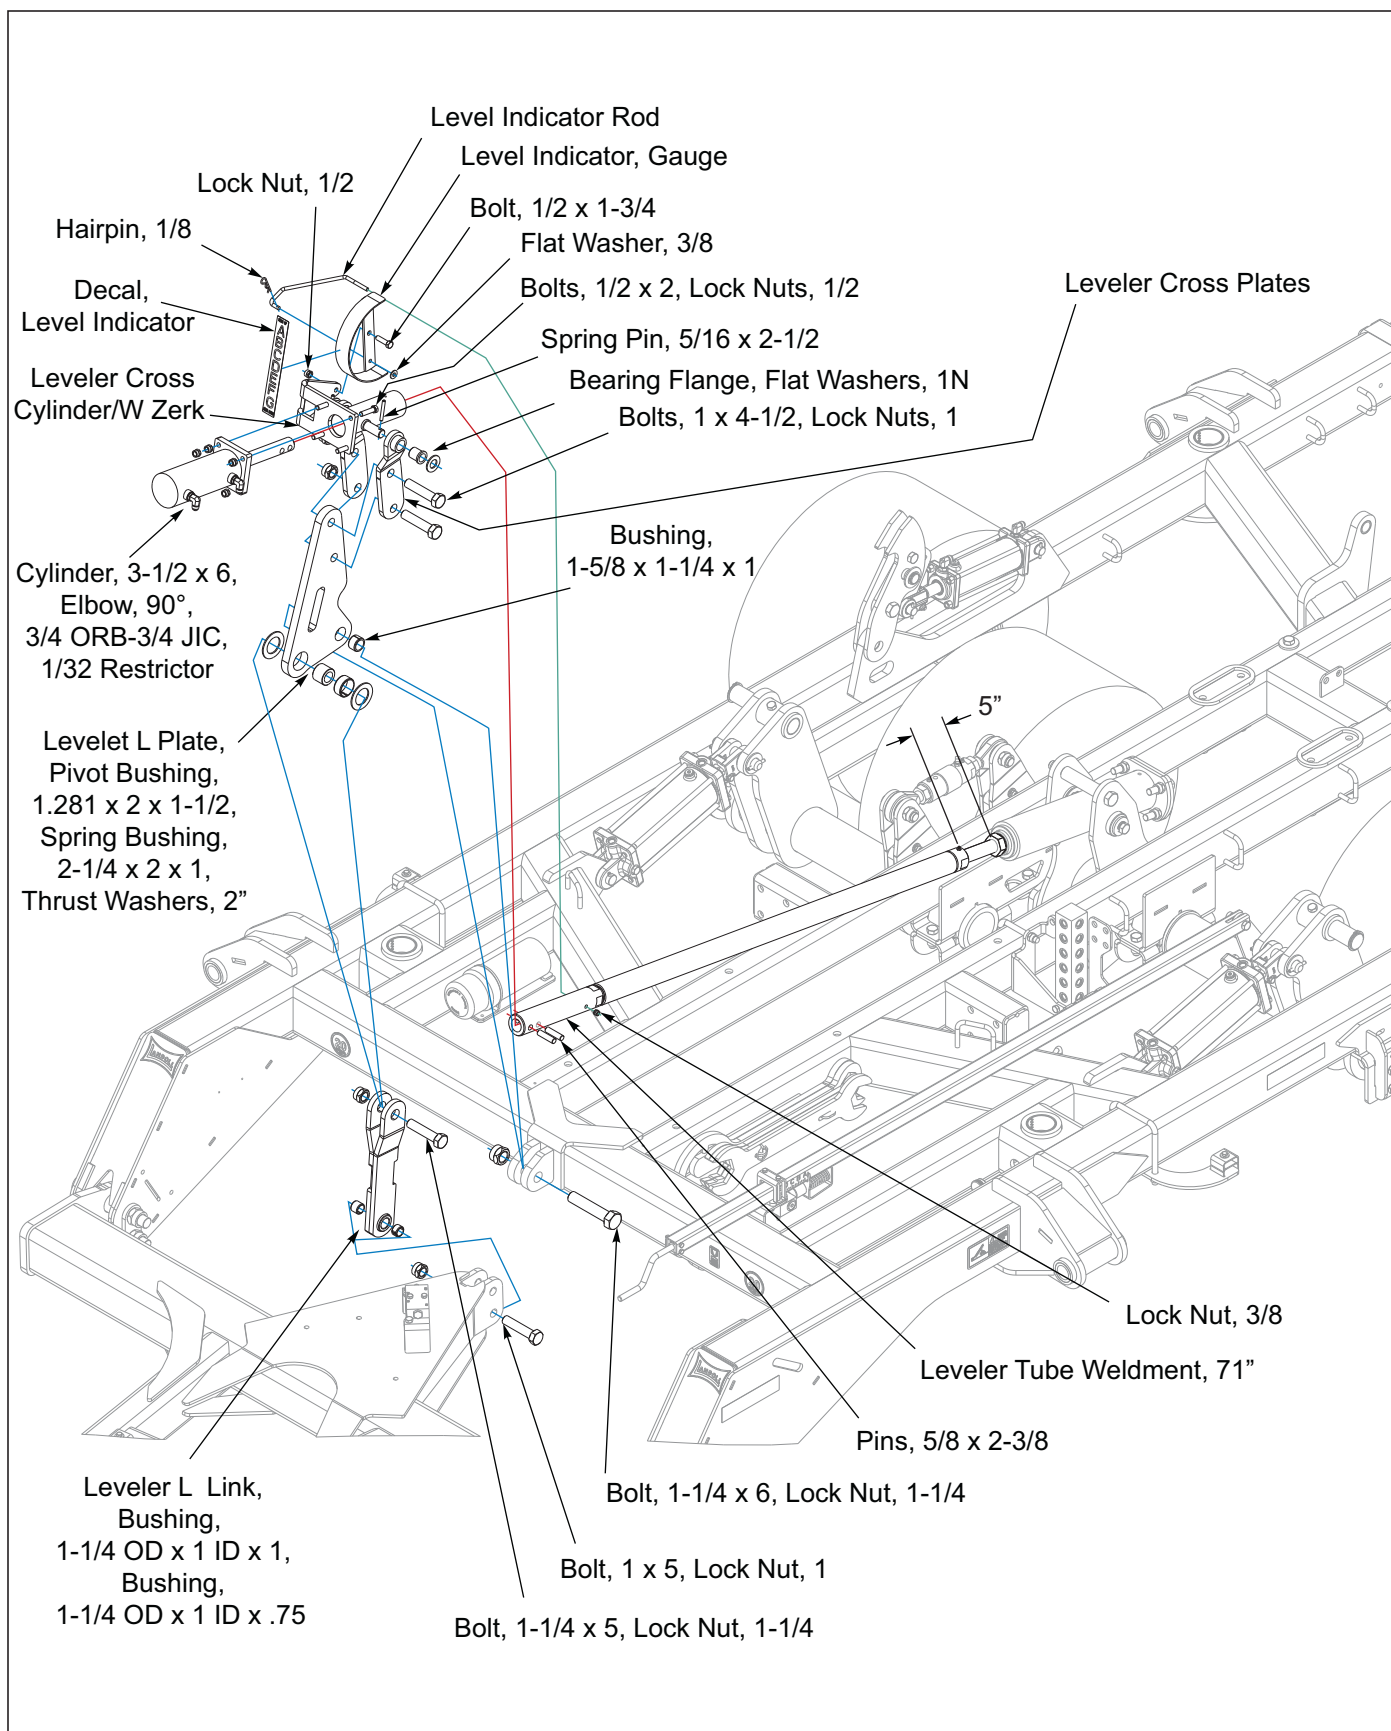

Figure 3-5: Leveler Assembly Installation
1. Be sure the 1-1/4 OD x 1 ID x 1 and 1-1/4 OD x 1 ID x3/41 bushings are in the leveler I link **See Figure 3-5.**
5. Slide leveler cross cylinder/w zerk over front end of the 71" leveler tube weldment until 2 holes are through plate **See Figure 3-5.** Slide the 3-1/2 x 6 cylinder onto front end of 71" leveler tube weldment until the 2 holes in cylinder are aligned with 2 holes in 71" leveler tube weldment and slide the 5/8 x 2-3/8 pins through aligned holes. Slide leveler cross cylinder assembly back through until plates on two cylinders are aligned and secure with 1/2 x 2 bolts and 1/2 lock nuts.
9. Attach level indicator as shown **See Figure 3-5.**